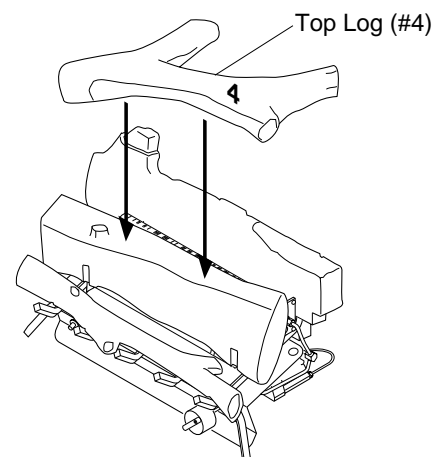

Figure 38 - Installing Top Log
4. Finally place top log (#4) over bottom mid log (#2) by matching the notches under log (#4) with the raised blocks of log (#2) (see Figure 38).